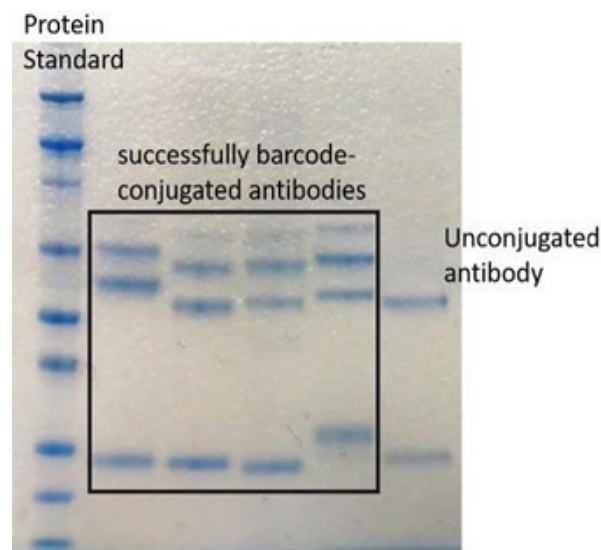

FIGURE B.4. Gel visualization.
- g. Wash the gel with ddH₂O and leave it on the shaker until bands are visible. (See Figure B.4.) More microwaving steps can be added to accelerate this process or it can be left overnight on a shaker.